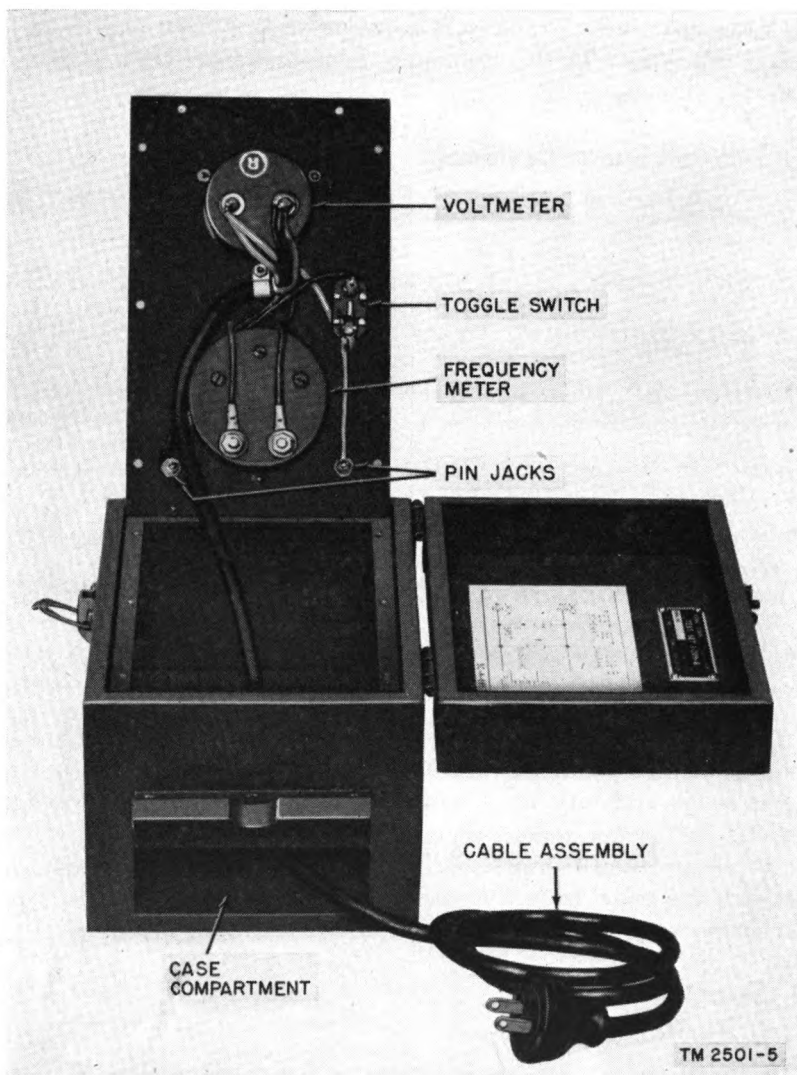

Figure 5. Bottom view of panel.
- c. Open the compartment in the case by lifting up the spring-hinged cover (fig. 5), remove the test leads and the adapter connector from the compartment and pull out the cord assembly.
c. When using the cable assembly, pull the test leads out of the pin jacks. When using the test leads, roll up the cable assembly and place it in the case compartment (fig. 5). *Never use the test prods and cable assembly at the same time (see caution in paragraph 11b).*
(fig. 5)